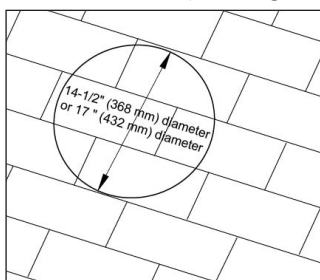

Figure 3
4. **Cut roof hole**...between two rafters using predrilled marker and template on back of carton, cut your hole to the proper size (size and placement of hole are determined by whether you have 16" [406 mm] or 24" [610 mm] center rafters). See Figure 3.